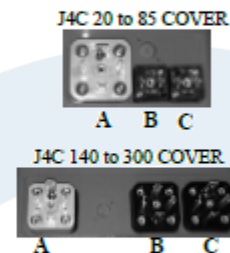

FIGURE 11
- B plug - Connect a cable between PIN 1 (on the right side) and PIN Earth (on the bottom) (Fig. 11).